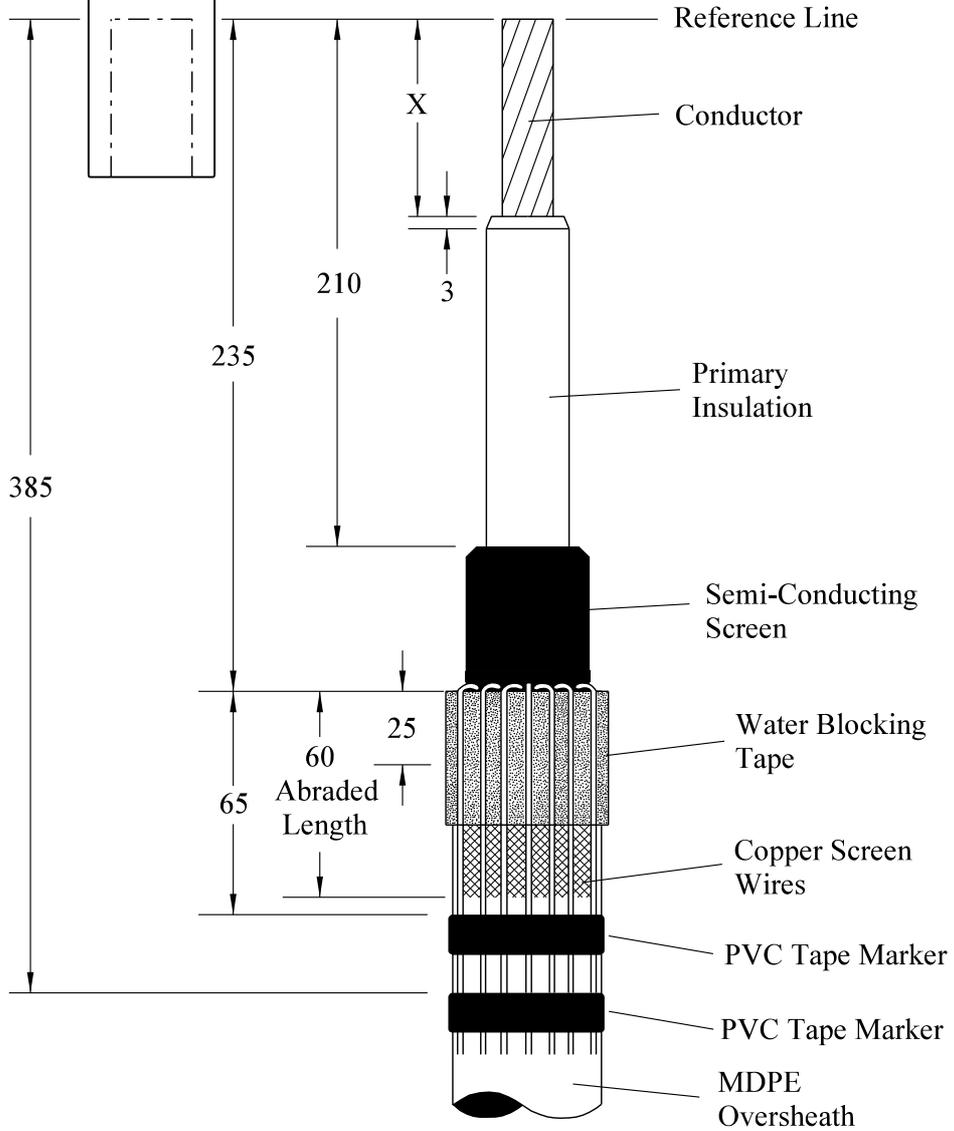

Fig 1
15. Place a PVC tape marker 245mm from the reference point onto the copper screen wires — Fig 1.	--